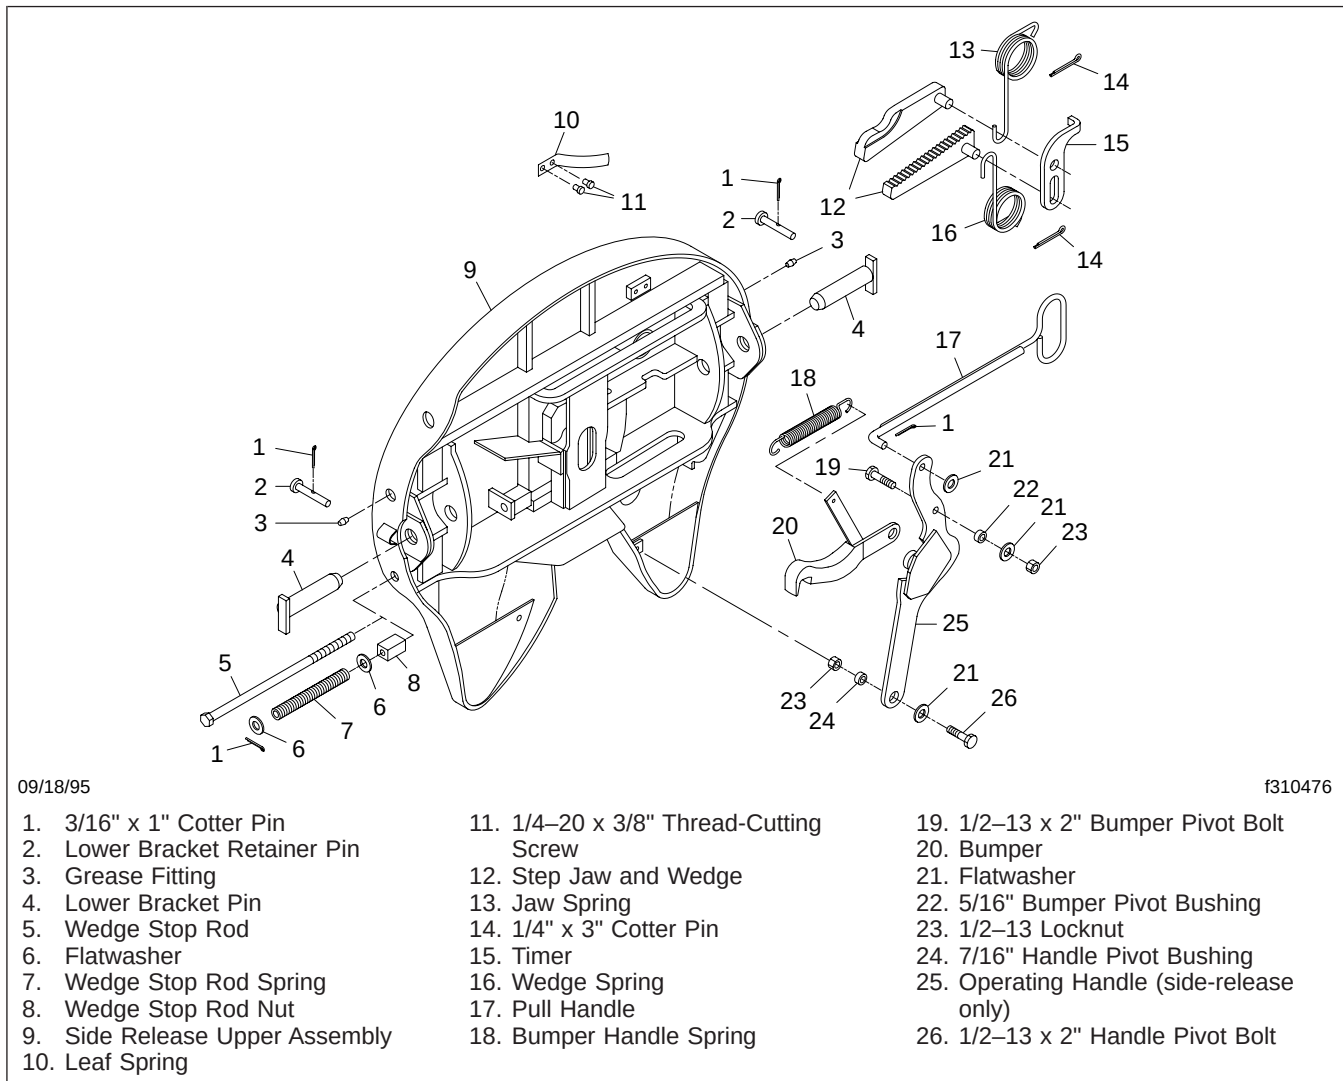

Fig. 1, Fontaine H5092 Series Fifth Wheel (left-side-release shown)
6. Visually check for loose nuts or bolts (see Fig. 1) on the fifth wheel and on the mounting. Set a torque wrench to the maximum torque value for the bolt being checked, and confirm that the torque is to specification. Do not loosen the bolt to check the torque value. See Group 00 for bolt torque specifications.